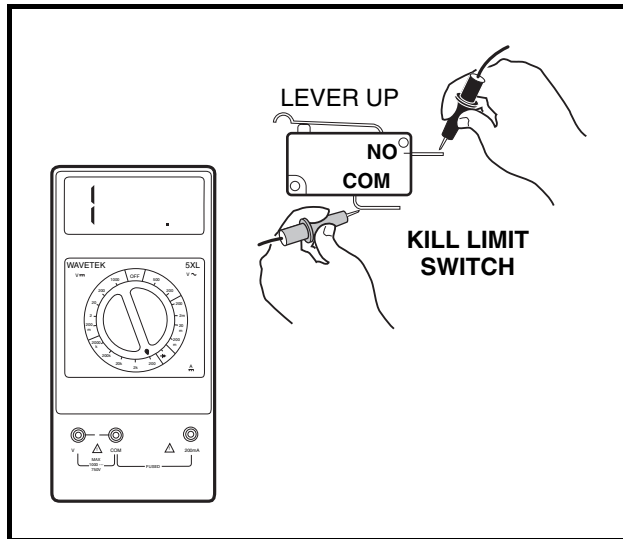

Figure 11-27 Test Kill Limit Switch
3. Disconnect wires from the limit switch and test the limit switch for continuity. Place the red (+) probe of the multimeter on the common (COM) terminal (white/black wire) of the limit switch. Place the black (–) probe on the normally open (NO) terminal (black wire) of the limit switch. Without the lever pressed, the reading should be no continuity. Press the lever, and the reading should be continuity. If either reading is incorrect, replace the limit switch (**Figure 11-27, Page 11-27**).